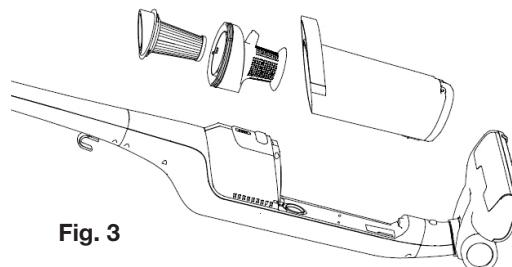

Fig. 3
6. Rinse everything with clean water and allow to dry completely in the open air (for at least 24 hours in the case of the EPA filter) before refitting to the appliance. Refit the components in reverse order (see figure 3).